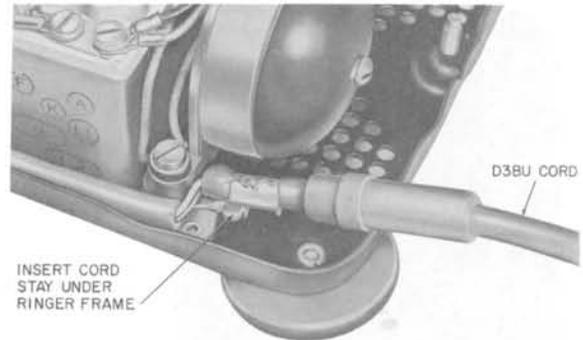

Fig. 8—Installing Heavy-Duty Cord
- (1) Remove ringer mounting screw (Fig. 8).
- (2) Insert cord stay under ringer frame.
- (3) Reinsert mounting screw.
- (4) Position cord grommet so that cord is protected where it enters set.
- (5) Replace housing.